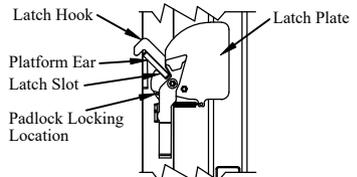

Figure 12: Steps 14 & 15.
Step 14. If required, hold the platform vertical against the latch hook with one hand and lower the platform into the latch plates until the latch hook completely closes over the platform latch ear (Figure 12).
Step 15. Always install the latch padlock and deactivate the control when not in use (Figure 12).